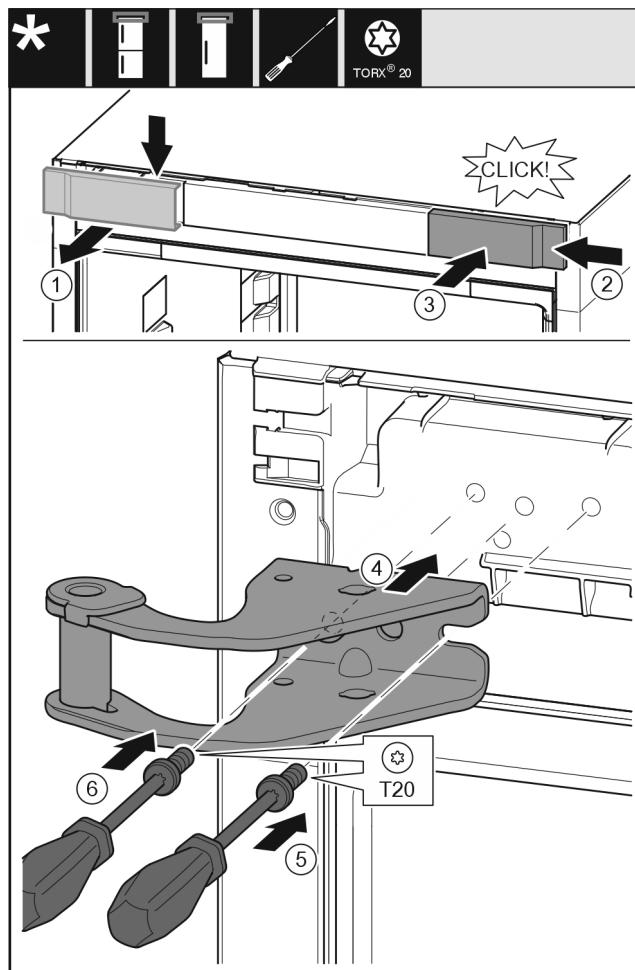

Fig. 12
- Remove the cover Fig. 12 (1) from the top towards the front.
- Hang the cover Fig. 12 (2) from the right turned by 180° to the other side.
- Snap in the cover Fig. 12 (3).
- Attach the top swap bearing block Fig. 12 (4).
- Attach and tighten the screw Fig. 12 (5) with a screwdriver.
- Attach and tighten the screw Fig. 12 (6) with a screwdriver.